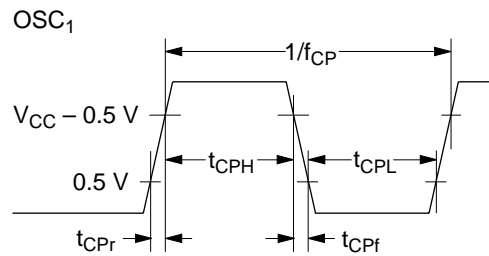

Figure 77 External Clock Timing
- Refer to figure 77.
2. Refer to figure 77.